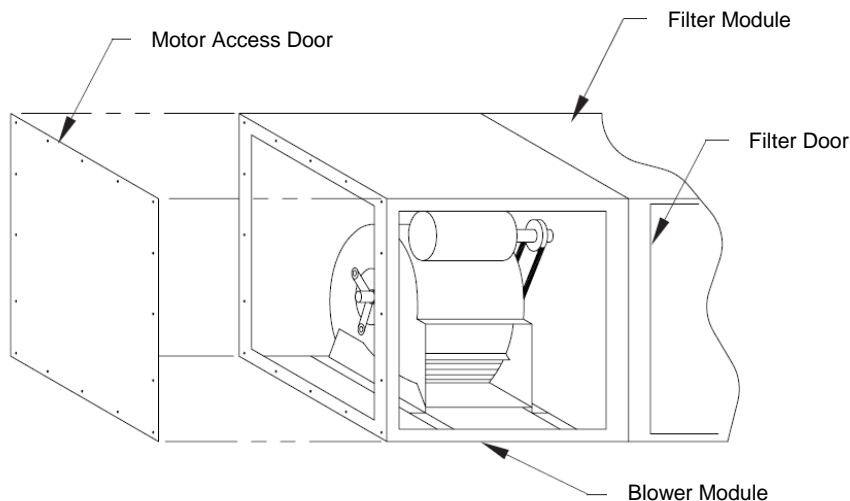
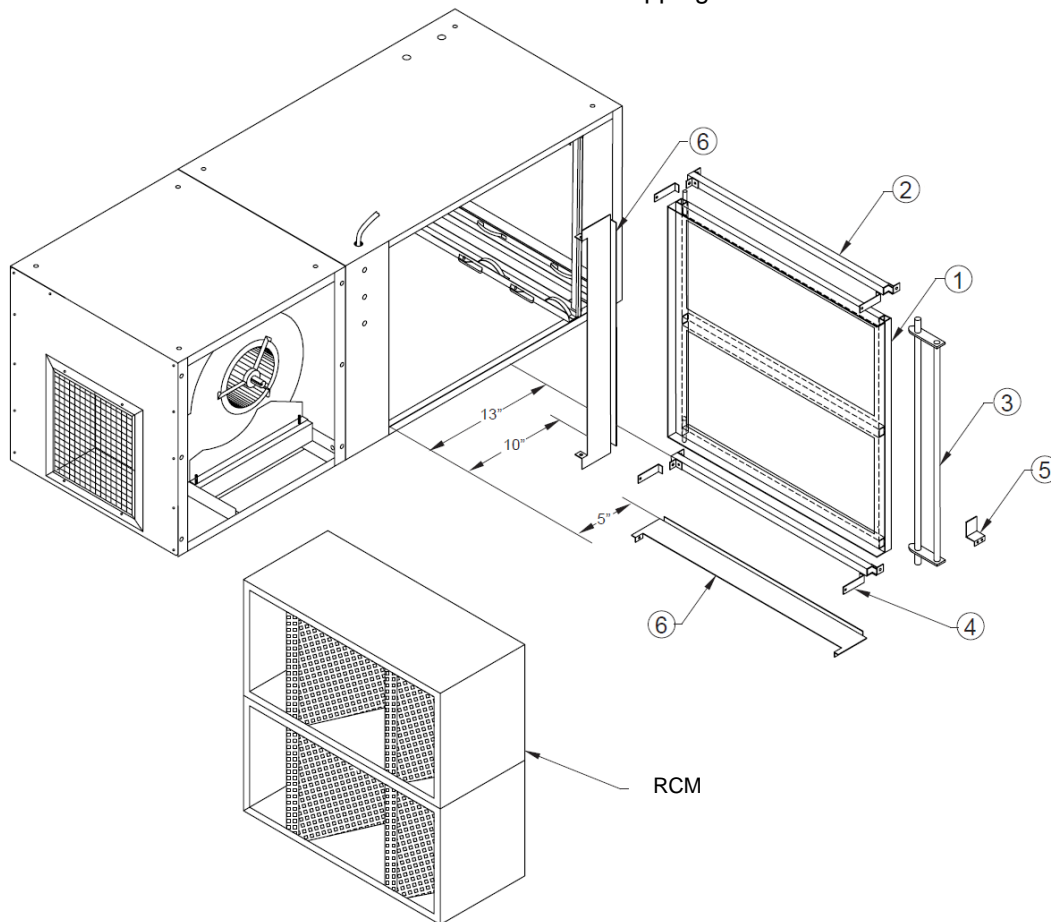
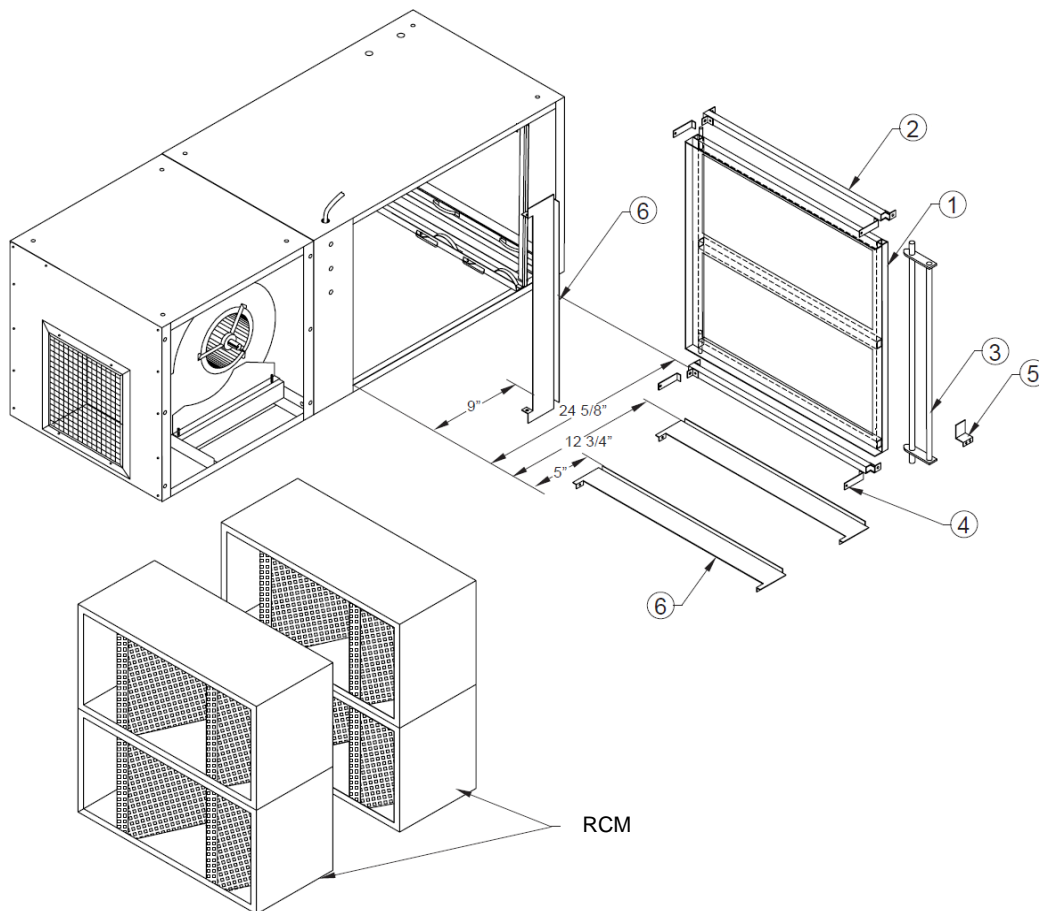

FIG. 3
FIG. 4
FIG. 5
4. Rotate the motor/blower module 90° as shown in FIG. 3.
On units with optional HEPA or charcoal filters, an adjustable filter track kit is used to complete the seal of the filters to the filter stop (FIG. 4 & FIG. 5). If the unit was ordered with either a HEPA or charcoal filter, the adjustable filter track kit is included with the unit. If a HEPA or charcoal filter is ordered as an after-market item, the adjustable filter track kit should be ordered as well. Order part number 38036-01.
On units with optional HEPA or charcoal filters, an adjustable filter track kit is used to complete the seal of the filters to the filter stop (FIG. 3 & FIG. 4). If the unit was ordered with either a HEPA or charcoal filter, the adjustable filter track kit is included with the unit. If a HEPA or charcoal filter is ordered as an after-market item, the adjustable filter track kit should be ordered as well. Order part number 38036-01.